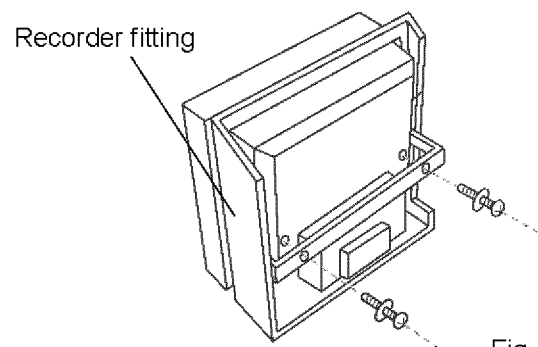

Fig. 15
4. Fix the recorder to the recorder fitting in the recorder mounting kit (MPR-S7) referring to the instruction manual enclosed with the recorder mounting kit. [Fig. 15]